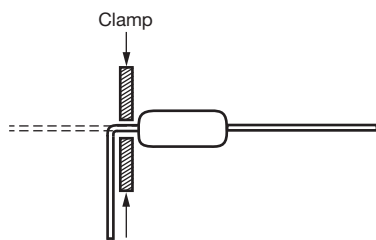

Fig. 1
- When bending the leads, they must be clamped between the device body and the bending point (Fig. 1).